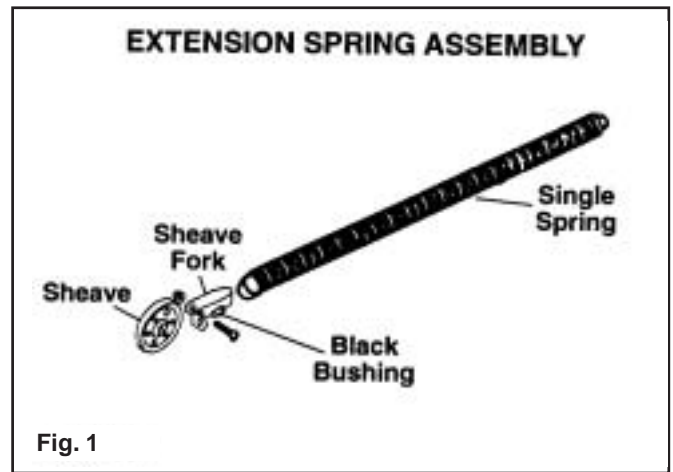

Fig. 1
Step 1: Assemble springs with sheaves on the floor. A $\frac{3}{8}$ " x $1\frac{1}{4}$ " hex head bolt and $\frac{3}{8}$ " flange nut are used to attach the sheaves to the sheave fork. Be sure to attach the small black bushing into the sheave fork flange as shown. (FIG. 1)